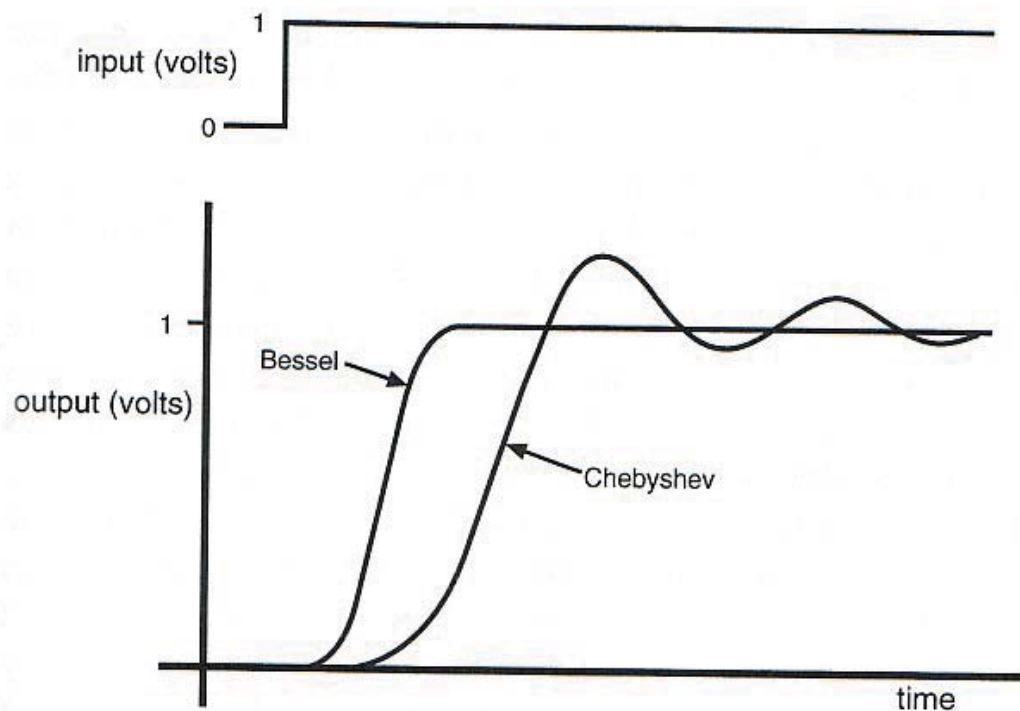

Figure 6. Effects of poor phase response on signal filtering (S.S. Young, 2001).
- Bessel: Worst roll-off rate of all four filters but the best phase response. Filters with a poor phase response will react poorly to a change in signal level (i.e. signal ripple; Figure 6). The slow roll-off and the good phase response of the Bessel filter means that it has a step response with no ringing (Figure 6). Even a filter with a perfect phase response will exhibit ringing if it has a sharp cut off.